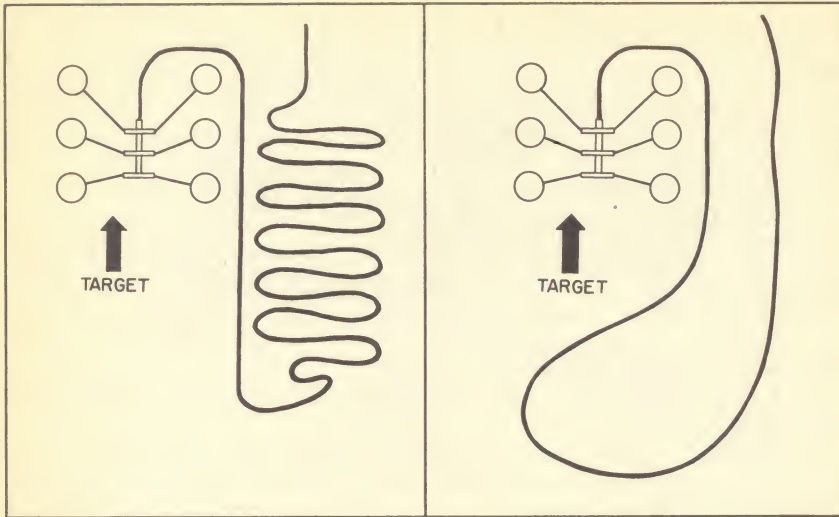

Fig. 21. Methods of uncoiling hose before carrying gun forward.
i. Uncoil manifold fuel hose from packboard or packboards, laying hose on ground in front of manifold assembly as shown in figure 21. If two 100-foot lengths of manifold fuel hose are to be used, couple them before uncoiling front length.